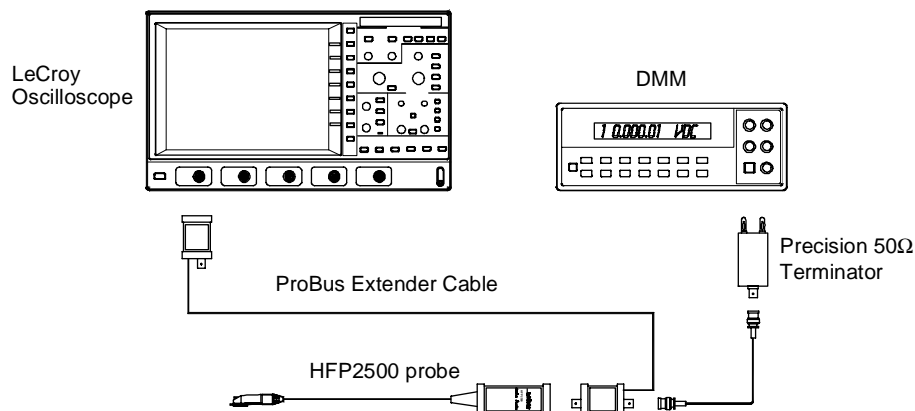

Figure 8-1. Output Zero Voltage Adjustment Setup
2. Connect the banana plugs of the precision 50 Ω terminator to the input of the DMM. Make sure the plug corresponding to the BNC shield (marked 'Ground') is connected to the **LO** or **COMMON** input of the DMM. Refer to figure 8-1 for setup information.